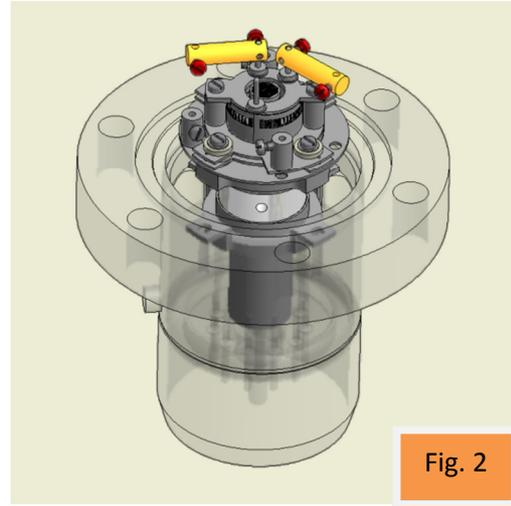

Fig. 2
3. Hold the barrel connectors highlighted in orange firmly with your pliers and slacken the screws highlighted in red until the barrel connector can be removed from the filament plate and the connecting lead, see Fig.2.
5. Carefully withdraw the source assembly from the filter, Fig.2.